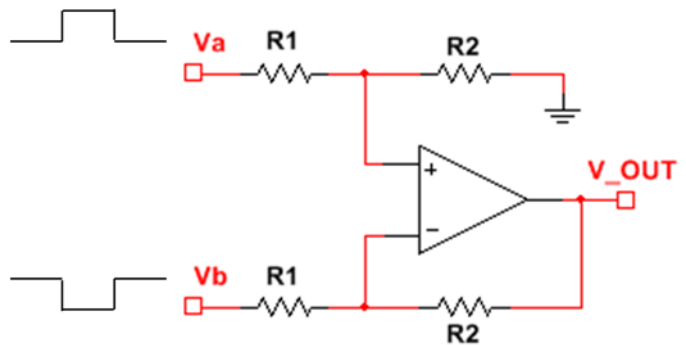

Fig. 1: Difference amplifier using a single op amp.
1) A difference amplifier (Fig. 1) does exactly what it says – it amplifies the difference between two voltages. This is a very useful function – a differential voltage signal is produced by many types of sensors and data transmission lines.